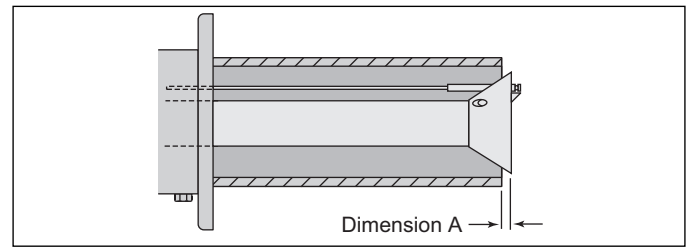

Figure 3.1. Nozzle Adjustment
1. Remove the ignition rod (3) or (3a) and flamerod (3) if applicable.
2. Remove the four bolts (1).
3. Pull the rear cover (2) far enough away from the housing (4) to get access to the lock nut (5).
4. Loosen the lock nut (5).
6. Hold the rear cover (2) in position and screw the nozzle in or out to adjust dimension A. See Figure 3.1.
7. Carefully pull the rear cover (2) and nozzle assembly out of the housing (4).